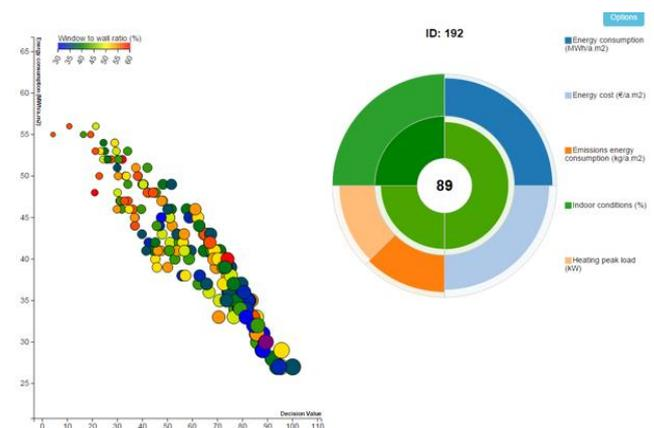

Figure 1: Decision Value representation
Afterwards, the KPA calculates a decision value (DV) which forms an integrated representation of the user preferences in the project as it is shown in Figure 1.